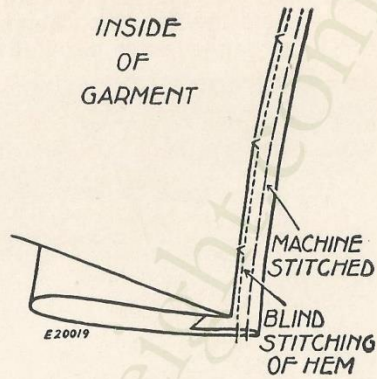

FIG. 254. BLIND STITCHING COMPLETED
Then lower the presser bar and commence sewing, carefully guiding the upper fold of the garment against the guide (C) so that the straight stitching will be made in the gathered edge and the tacking or sidewise stitches will be made in the fold of the garment, as shown in Fig. 254.